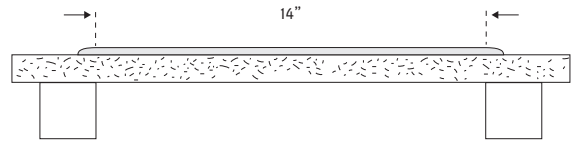

FIGURE 3
2. Reduce the size of the glass project relative to the size of the kiln shelf. For example, rather than covering the full 20" (508mm) width of a shelf with a piece, limit the dimensions of the piece to 14" (356mm). (Figure 3)